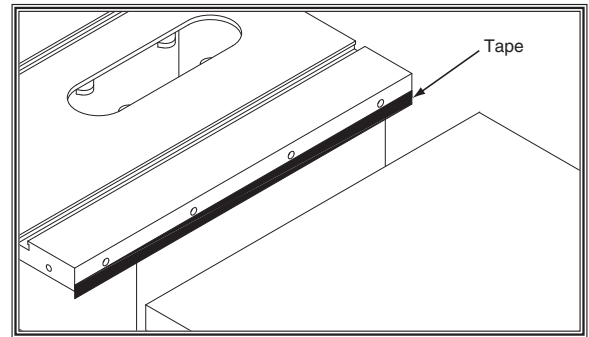

Figure 9. Using tape to shim the router table up.
- If the outside edge of the router table tilts down, place strips of masking tape along the *bottom* edge of the saw table to shim the router table up and even with the saw table from side to side (see **Figure 9**).